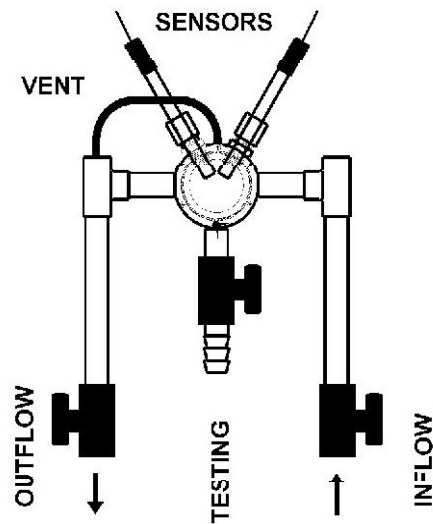

Figure 5 Flow Cell Assembly
- even better, in a sensor cell mounted on the bypass line (Figure 5).
For additional ease of installation and maintenance, it is also recommended to mount the sensors in the optional Flow Cell Assembly as shown in Figure 5. It includes: